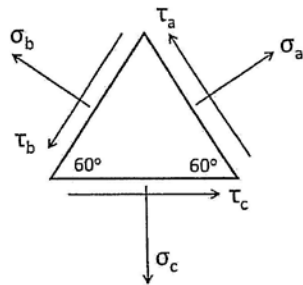

Fig. 1
1. The state of a uniform plane stress as shown in Fig. 1. It can be described by  $\sigma_a=100\text{MPa}$ ,  $\sigma_b=200\text{MPa}$ , and  $\tau_a=400\text{MPa}$ . Determine the values of  $\sigma_c$ ,  $\tau_b$ , and  $\tau_c$ . (20%)